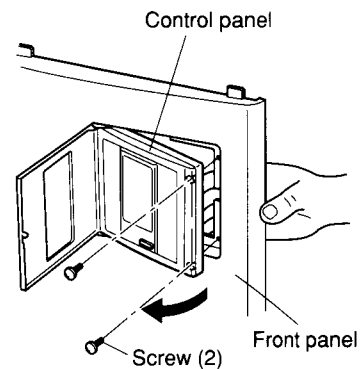

Fig. 41
- ③ Detaching the Control panel from the Front panel
- a. Unscrew the control panel attached to the front panel. (Fig. 41)
- b. Put your right hand on the right rear of the control panel, and push it toward you. The control panel will detach easily from the front panel. (Fig. 41)